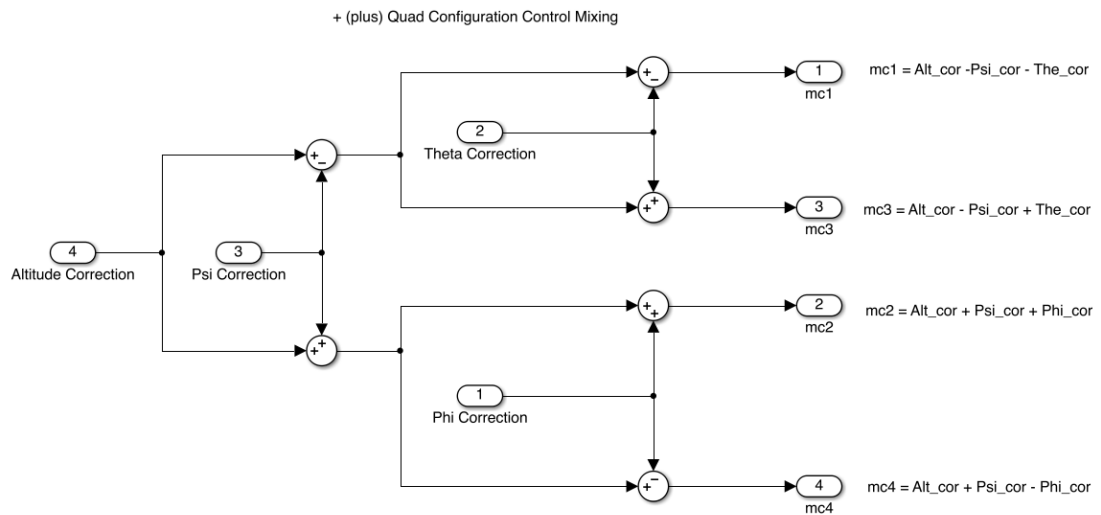

Figure 4. Plus configuration control mixing
8. The purpose of the switch mechanism is to allow both “X”-configuration and “+”-configuration vehicles to be controlled correctly without having to use a different block. Take a look inside both the “+” and “X” blocks. The plus block is the one that will actually be used right now since we loaded a “+” quadcopter model. The equations are written next to each output for reference (see Figure 4).